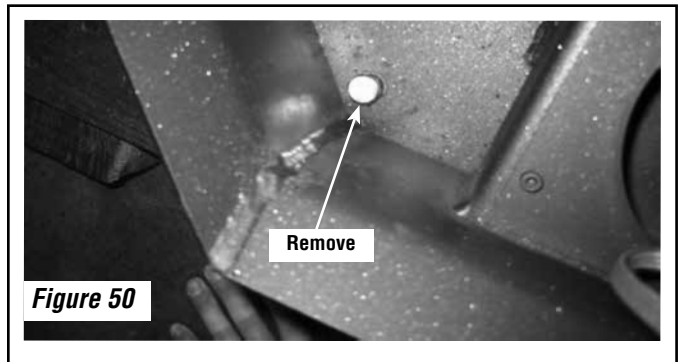
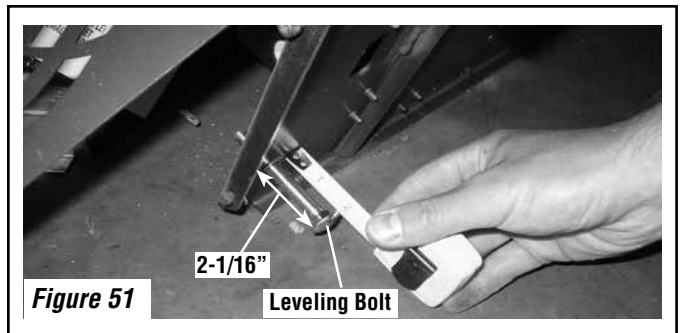

Figure 50
Figure 51
2. Install your four leveling bolts (provided with the appliance). Open the main front door and remove the two bolts in the front right and front left of the bottom of the fire box see Figure 50. **NOTE:** Placing a level on the insert top is recommended to ensure your insert is level. Again with the insert very cautiously tilted back, insert your four leveling bolts approximately 2-1/16" (52 mm) into the holes provided at the bottom of the insert (see Figure 51).